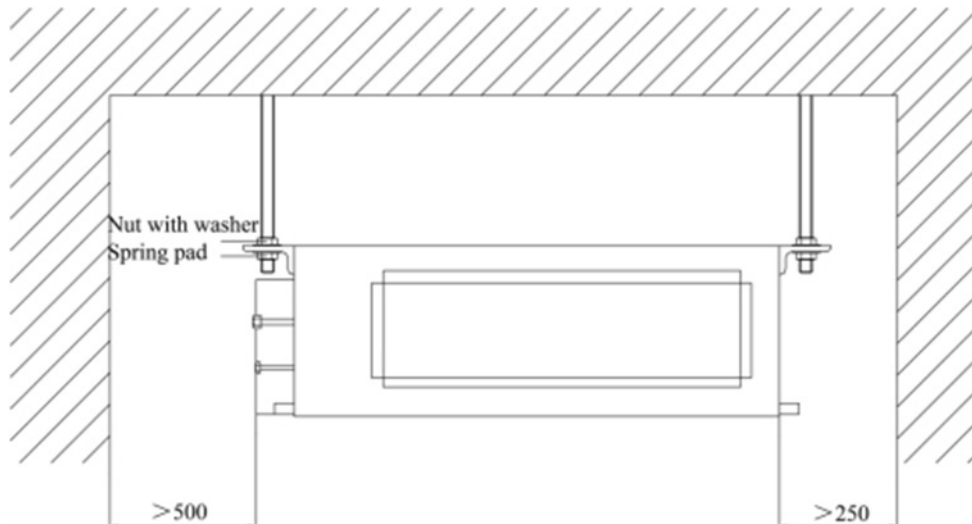

Figure 2: Indoor Unit Installation Space Requirements
- Ensure the minimum clearances shown in Fig.2 are provided for maintenance access.